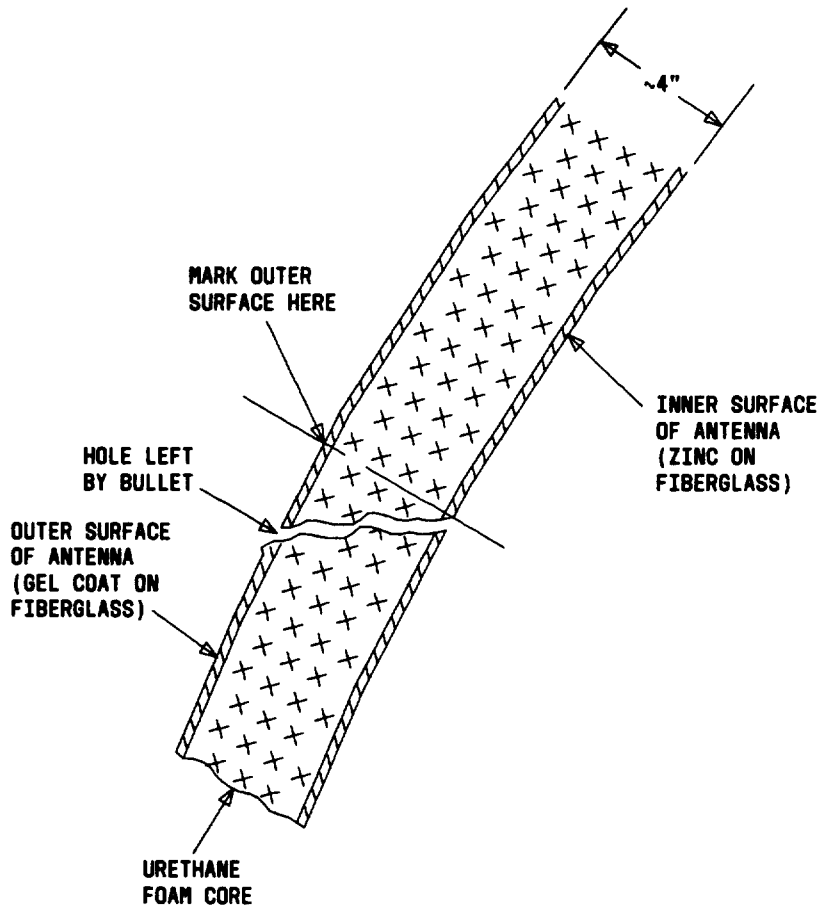

Fig. 3—Hole in Parabolic Reflector Surface
- 3 Insert the smaller of the two files, tang first, into the hole in the outer surface. Gently ease the file in so that it traces the path left by the bullet. The file tang should exit on the inner surface of the antenna which lies at a depth of about 4 inches. Using the tilt angle of the file in combination with the 4-inch thickness, reference-mark the outer surface with the approximate location of the hole in the underlying surface. (See Fig. 3.) Mark off an elliptical or diamond-shaped area of approximately 3 inches by 4-1/2 inches centered around this reference mark.